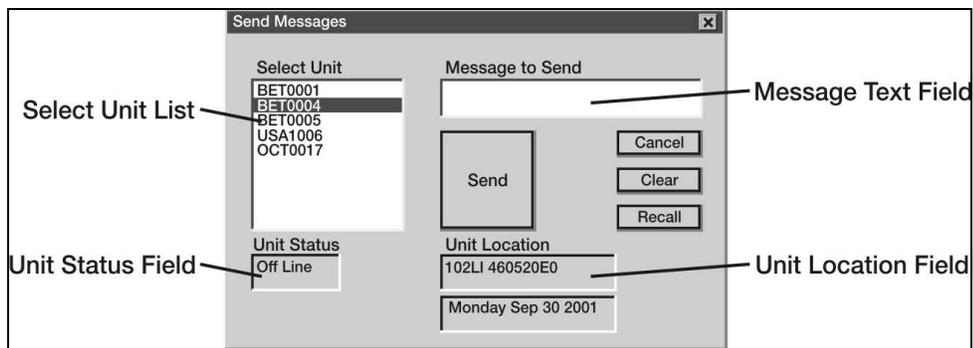

Figure 3-98. Send Message to Control Station
- (1) Select the Send Messages pull-down menu (see Figure 3-98) or use one of the function keys on the keyboard (F2, F3, and F4).
- (2) Select the Send Messages pull-down menu or use one of the function keys on the keyboard (F2, F3, and F4).
- (3) To choose a recipient for your message, choose a unit from Select Unit List. Before you type a message, check the Unit Status Field. This field will let you know if the intended recipient is on line or off line. The Unit Location Field will indicate the position of unit.